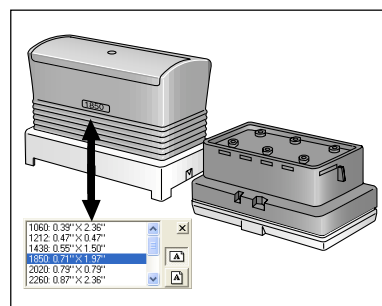

figure 2
- ❸ Select a blank stamp pad in the desired size. Make sure that the stamp size you have selected in the drop-down list matches the size indicated on the stamp holder (see figure 2).
- ❹ Remove the cap from the stamp.